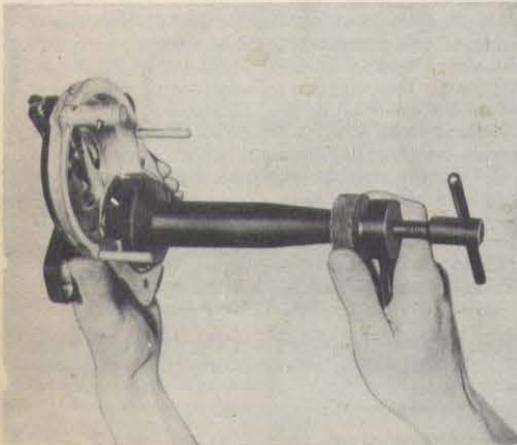

Figure 10—Removing Outside Ball Race From Front End Plate
(1) Clean and examine the ball bearings making sure that the ball races or balls are not pitted or worn.
(2) If any one part of a ball bearing is defective and needs replacement, the complete bearing must be replaced.
(3) The outer ball races are insulated from the magneto by insulating strips and are also backed by washers of the same material as used in the insulating strips.
(4) Remove the outside race from the front end plate with puller No. 11-1002 (figure 10) and remove the inside race from the drive end of the rotating magnet with puller No. 11-1065.